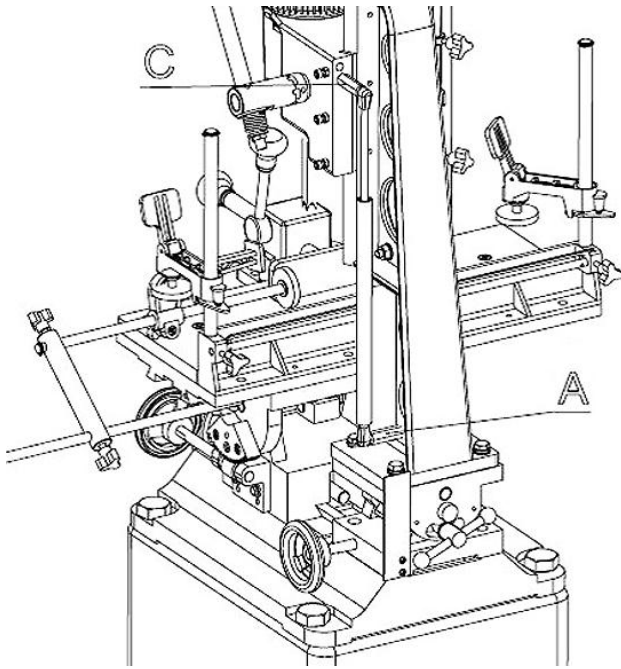

Fig 4
1. Make sure head (A) Fig.4, is held in the up position and assemble the gas spring to the two fittings (C), one located on the base and the other on the back of the head.